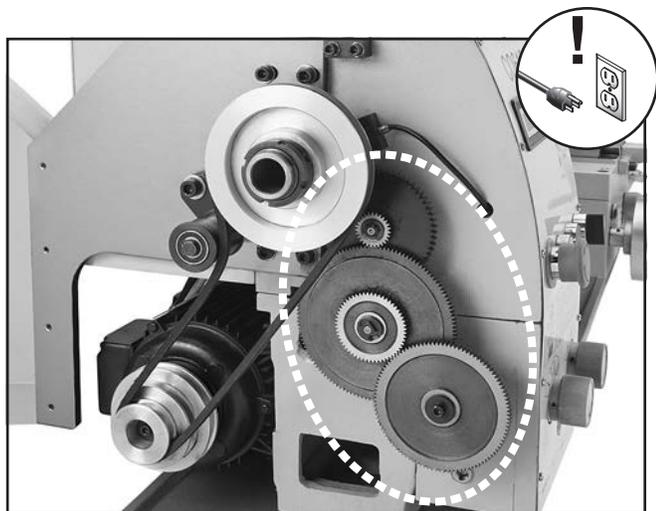

Figure 89. Change gears.
The change gears, shown in **Figure 89**, should always have a thin coat of heavy grease to minimize corrosion, noise, and wear. Wipe away excess grease that could be thrown onto the V-belts and reduce optimal power transmission from the motor.
2. Open the change gear cover and remove all the change gears shown in **Figure 89**.